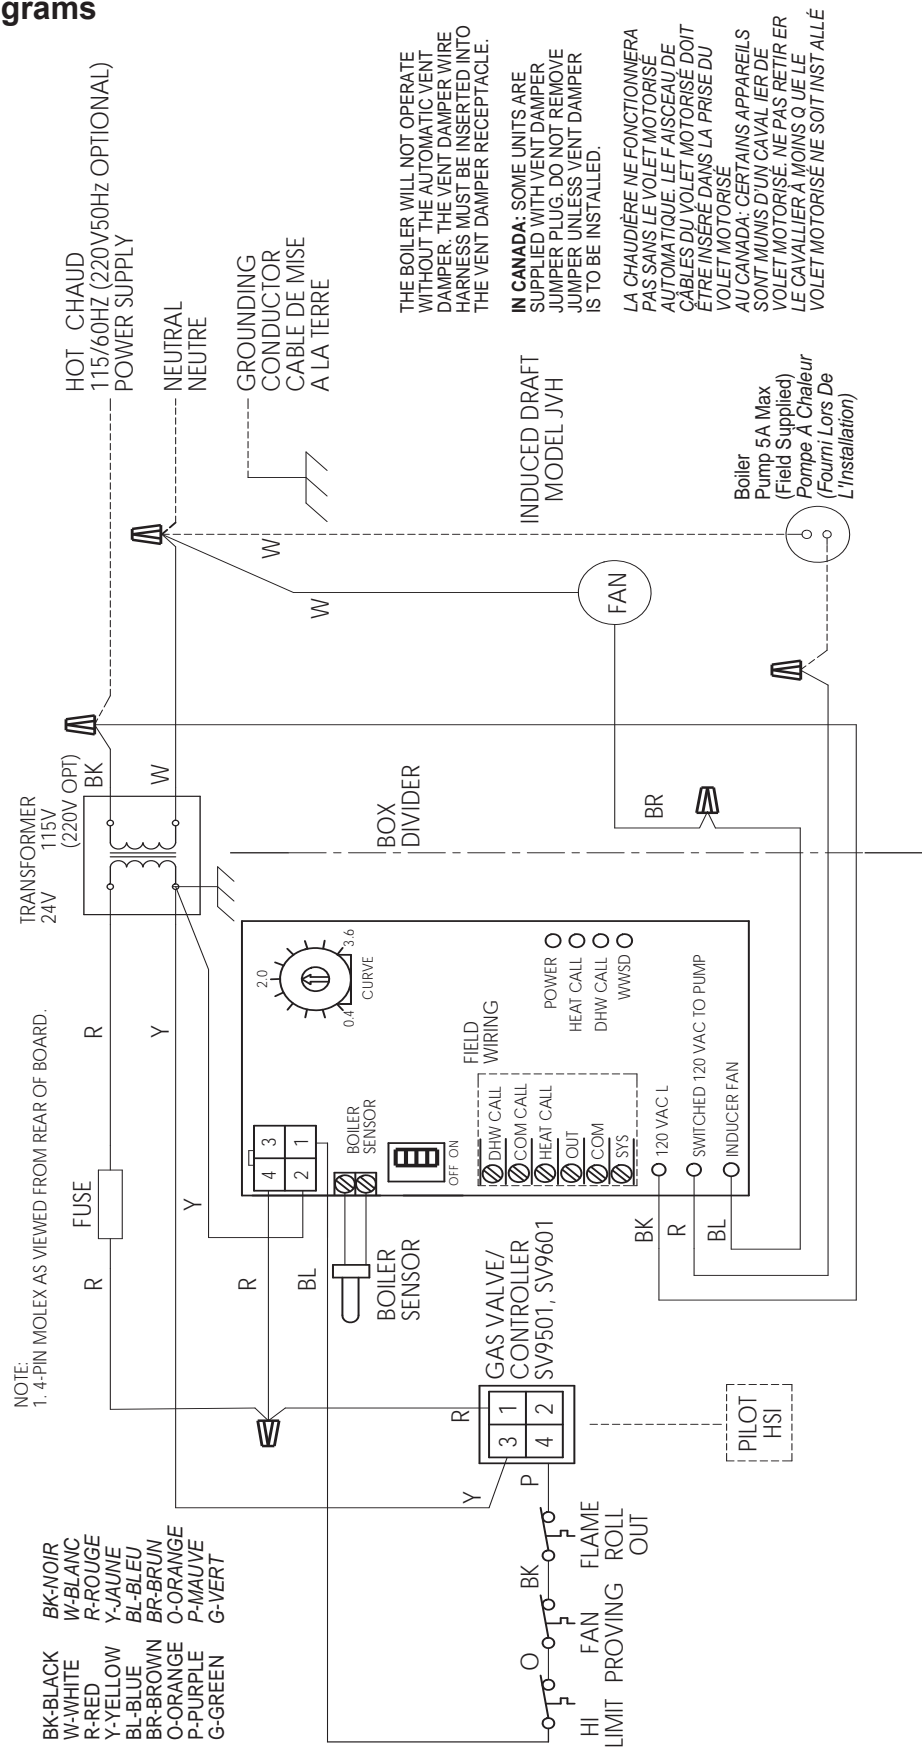

Figure 14A. Wiring Diagram, JVH
3. Follow the schematic in **Figures 14A. and 14B.** Remove the wire nut from the two sets of wires, and connect the hot lead from the 115V power supply to the black wires and the neutral lead to the white wires.